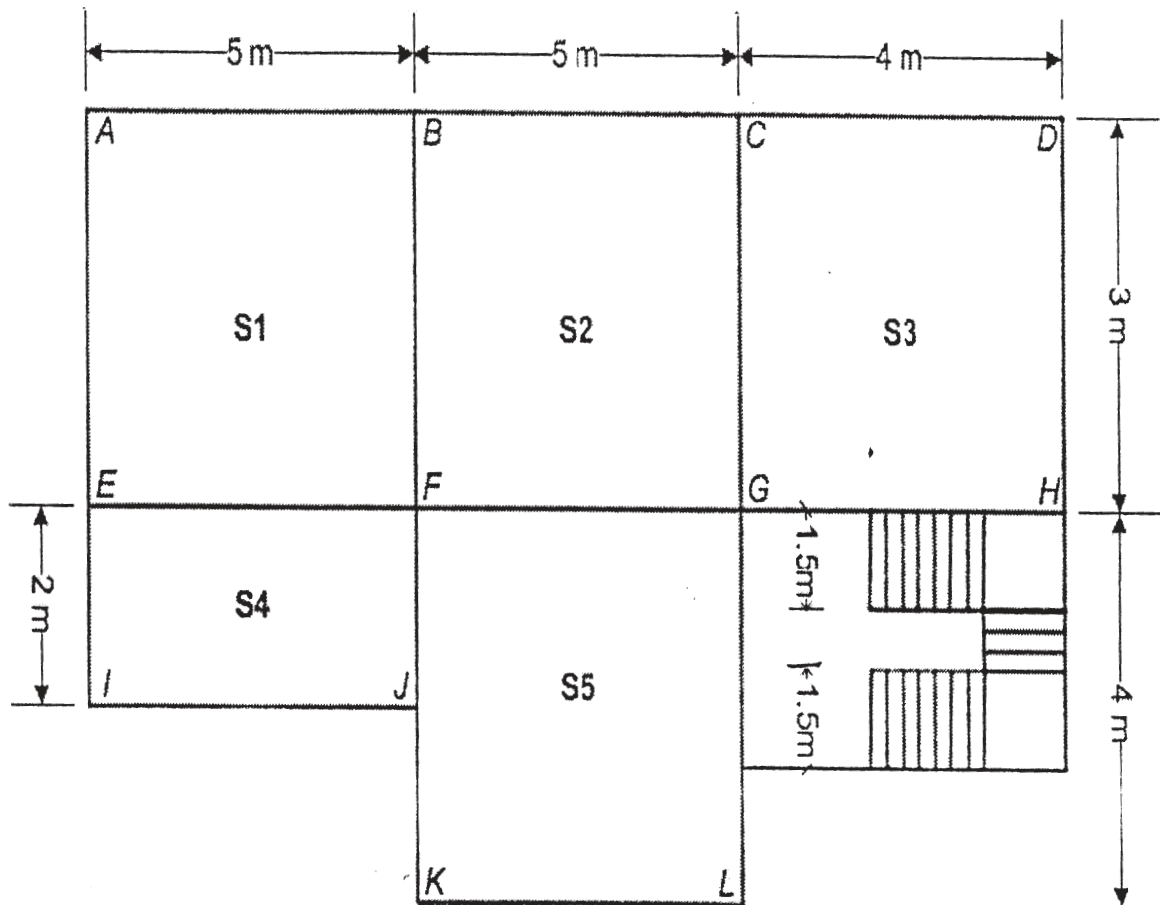

Figure 1
**Q3)** Design floor slabs S7 and S9 only for flexure and torsion. Refer the centerline structural plan given in Figure 1. Width of all beams is 230 mm. Consider live load =  $4\text{ kN/m}^2$ , Floor finish =  $1.5\text{ kN/m}^2$ .
Refer the centerline structural plan given in Figure 1. Width of all beams is 230 mm. Draw the reinforcement details in sectional elevation for both flights.